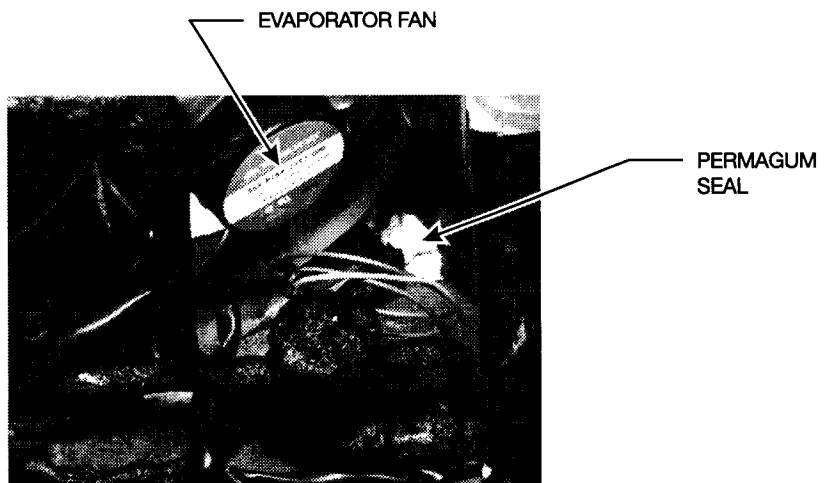

Figure 30
27. Check the permagum seals where the drain and refrigeration lines pass through the wall. **See Figure 30.**